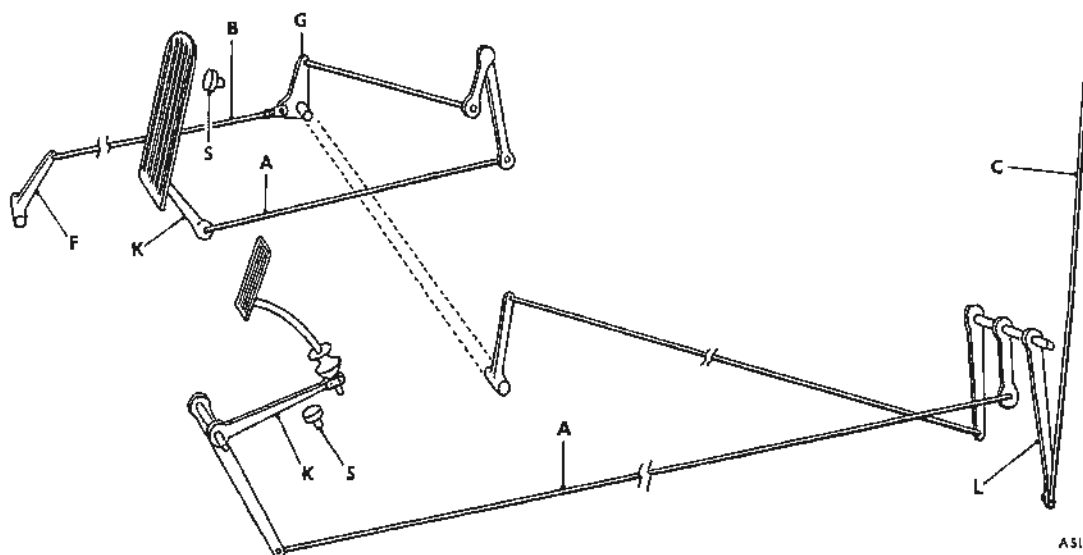

Fig. 30 Throttle and T.V. control linkage — early S1 cars
On early S1 cars, disconnect rods (A) and (B) (see Fig. 30).